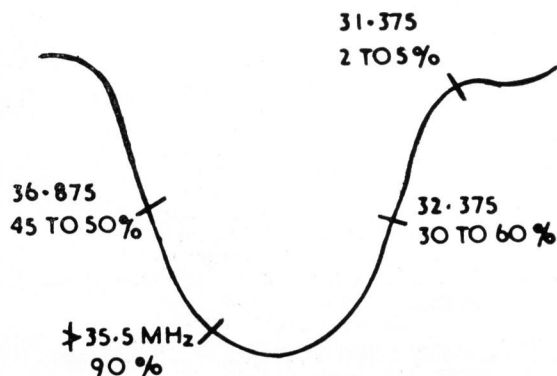

Figure 3.
- Tuner output coil L2 on Tuner, for a smooth response as shown in Figure 3.